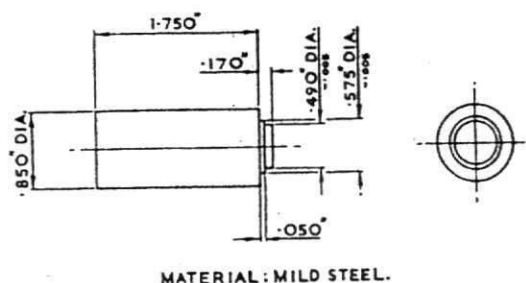
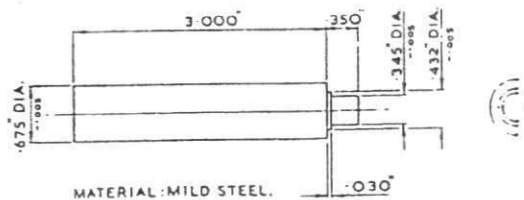

Fig. 2 Bentley 3½ and 4½ litre
Fig. 4 Bentley 3½ and 4½ litre
Note: When removing old water tubes and fitting new ones care must be taken not to damage the upper and lower faces of the cylinder head and cylinder block. The 0.575in diameter shoulder of the dolly, Fig. 2, will allow the water tubes of the cylinder head to be inserted 0.52in beneath the gasket joint face. The 0.432in diameter shoulder of the dolly, Fig. 4, will allow the water tubes of the cylinder block to be inserted 0.030in beneath the gasket joint face.
(ii) With the dolly, Fig. 2, tap the tubes fully into position.
(ii) With the dolly, Fig. 4, tap the tubes fully into position.
2. Dollies for inserting tubes (Figs. 2 and 4):